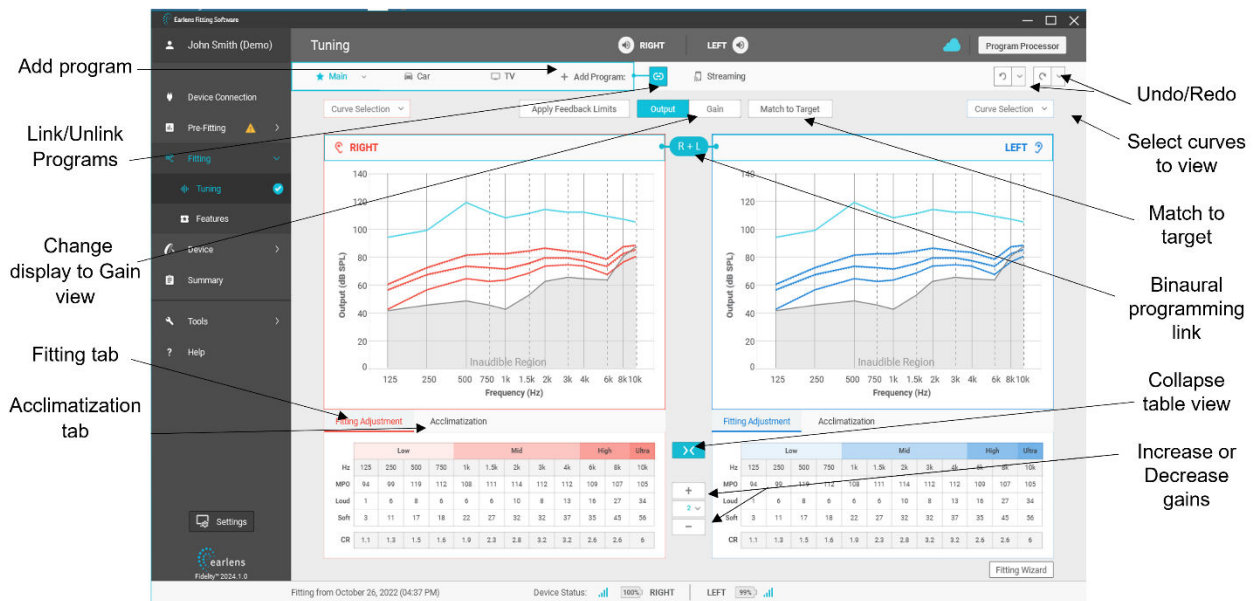
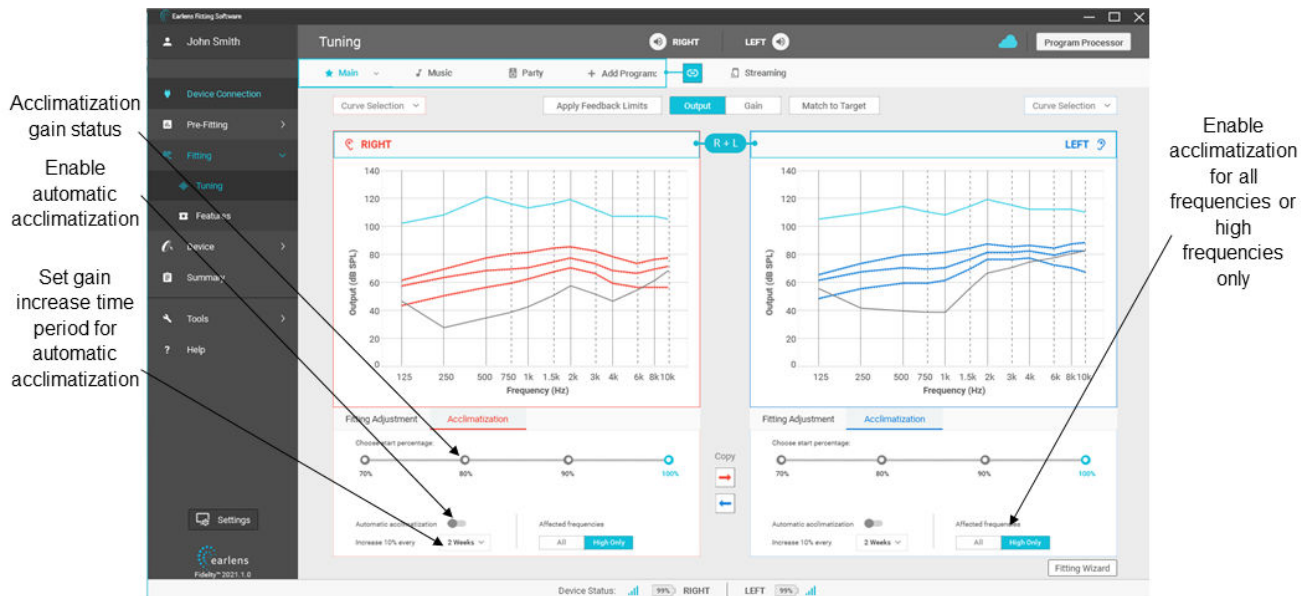

Figure 15: Tuning screen: Output view
Figure 16: Tuning screen: Acclimatization tab
- **Tuning:** Fine-tune the frequency response of the Processor (Figure 15) and access automatic or manual acclimatization (Figure 16).